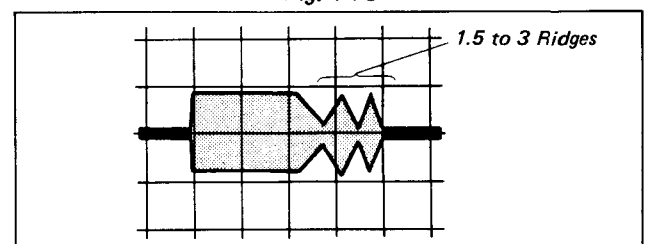

Fig. 1-79
- 2) Check that the RF waveform on the outlet side has 1.5 to 3 ridges. If not, readjust as follows. (See Fig. 1-79.)